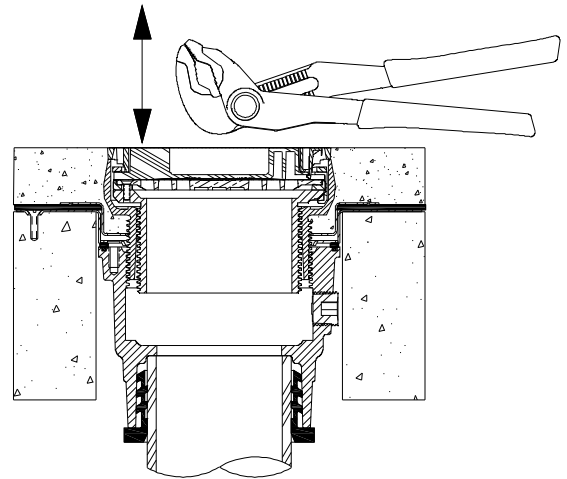

Fig. 9
9. Hit the top of the rough-in cover with a pair of adjustable pliers to loosen bond with the concrete. Continue hitting the rough-in cover until a visible crack forms around the entire circumference of the rough-in cover. Rough-in cover should appear loose (separates up from concrete). See Fig.9